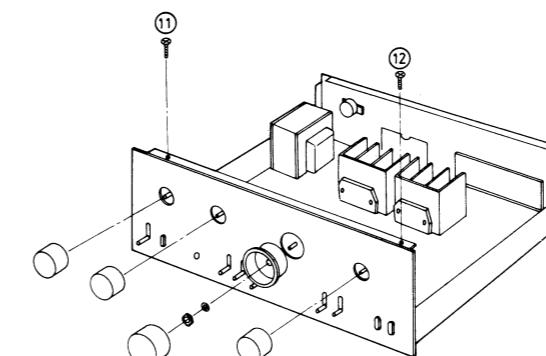

Fig. 4
6. The 3 projections on the chassis are fitted into the 3 holes on the bottom of the front panel. The front panel can be removed from the chassis, therefore, by tilting it forward (as shown in figure 4), and pushing it downward as shown in figure 5.